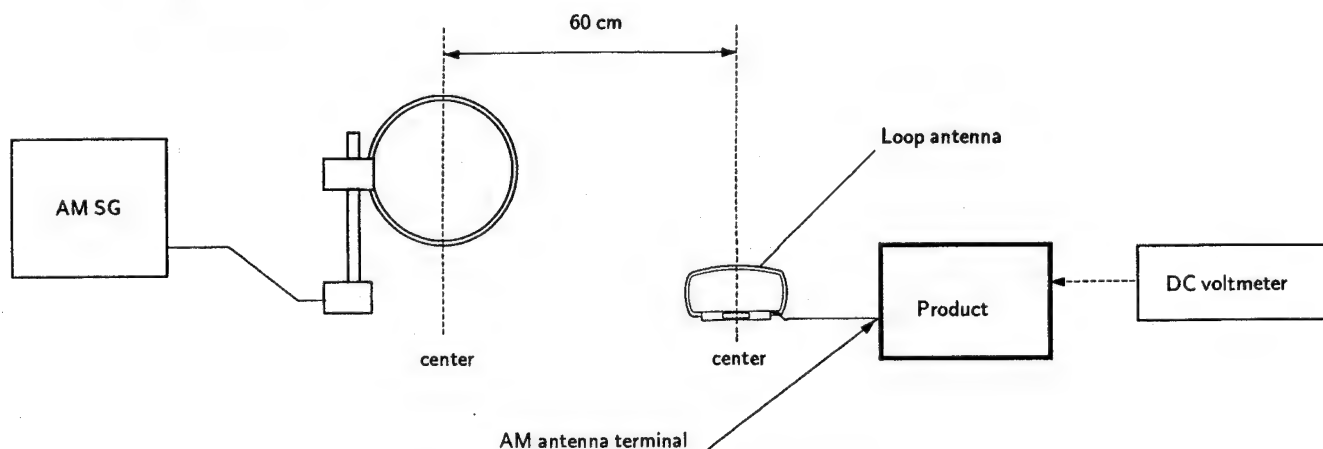

Fig. 4-2 MW Adjustment Connection Diagram
- Connect as shown in the Fig. 4-2.